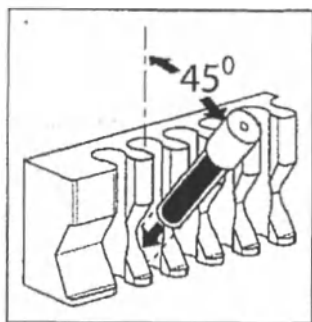

Figure 1
- a. Position indicator in metal block (see Figure 1). Place bottom of the indicator into the incubator's metal heating block so that the indicator is at an angle of approximately 45° .